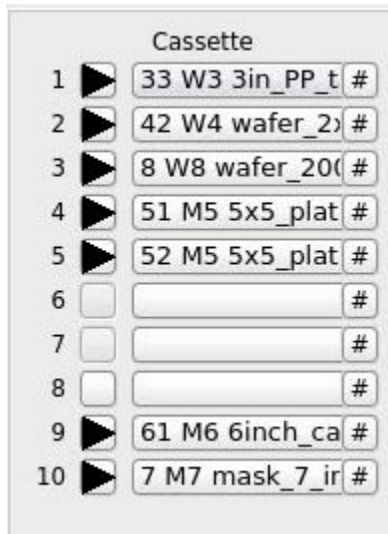

Fig. 3 Cassette section of cebpg.
- Left click on the text area where your holder is located to select the appropriate “table” (31, 32, 33, or 34 for the 3-inch holder and 41 or 42 for the 4-inch holder). Please refer to Fig. 3.